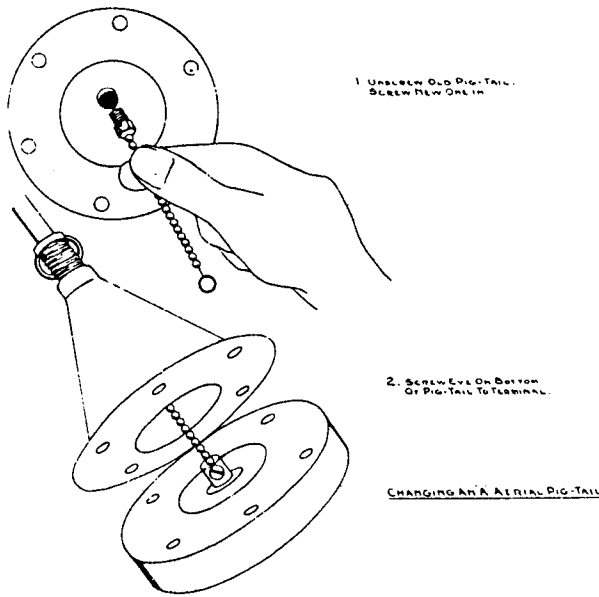

FIG. 5—CHANGING "A" AERIAL
9. To change an "A" aerial pigtail, remove the aerial base by removing the six fixing bolts. Then proceed as in Fig. 5. Have Signals personnel perform this, if possible.